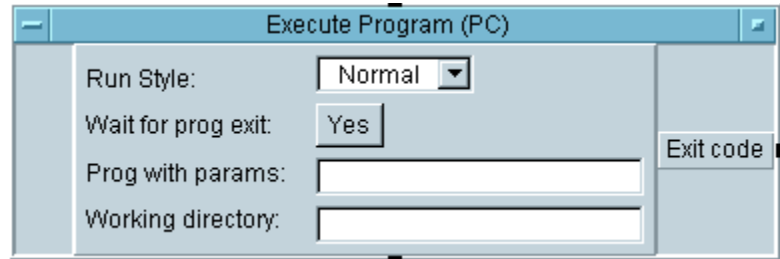

Figure 4-27. The Execute Program (PC) Object
You can use The `Execute Program (PC)` object to perform a task you would normally do from the Operating System command line. Figure 4-27 shows an example of the `Execute Program (PC)` object. You can use `Execute Program (PC)` to run any executable file including: